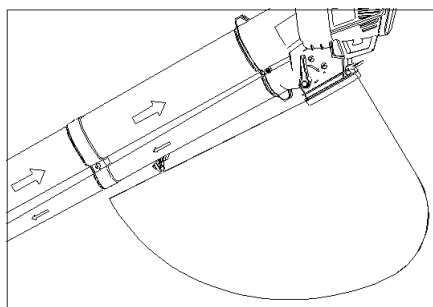
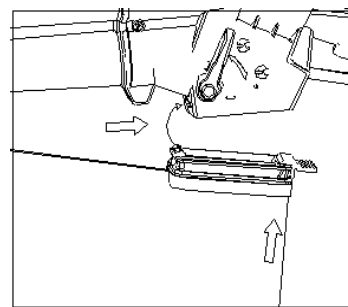

Fig. 7
Fig. 8
6. Fitting the debris collection bag (Fig.7 and Fig. 8)
Hold the hook on collection bag to tube (refer to Fig. 7), and then locate the bracket of debris collection bag to insert the curve tube (Refer to Fig. 8).
Select the blower function with the selector lever on the side of the machine (fig. 7) and switch it on. Place the machine on its castors and move it forward with the end of the tube pointing towards the debris to be removed.
Before starting, inspect the area to be cleaned. Remove all debris and objects that may be thrown, caught or entangled in the vacuum/blower. Select the vacuum function with the selector lever on the side of the machine (Fig. 7) and switch it on. Place the machine on its wheels and move it forward with the end of the tube towards the debris to be vacuumed. Alternatively, you can hold the end of the tube just above the floor and swing it from side to side as you move forward, pointing it at the debris to be vacuumed. Do not push the end of the tube into debris as this may clog the suction tube and reduce the efficiency of the unit.